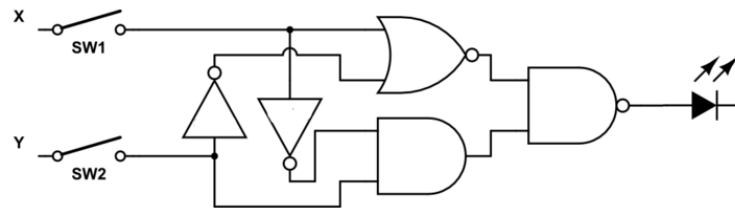

Figure 1: Circuit for activity 1
Implement the hardware from the circuit in Figure 1. The inputs should come from SW(1) and SW(2) and the output should be shown on any of the available LEDs. Use the implemented circuit to test and create a truth table with your results and place it within a comment in the program file.